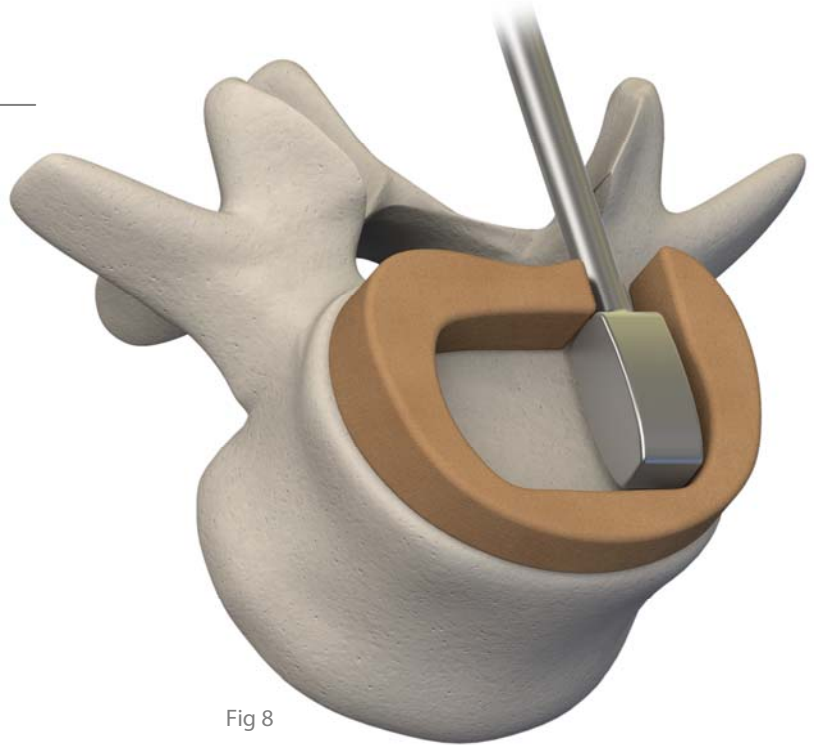

Fig 8
- Use Device Sizers (Fig 8) to determine final implant size.